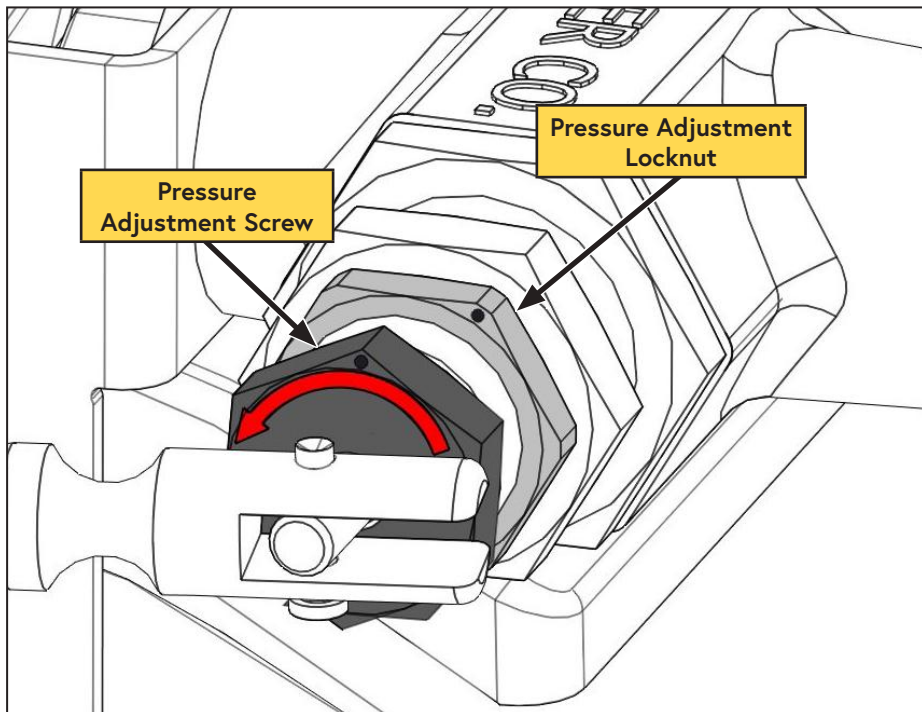

Figure 48 — Adjusting the Unloader Valve
- ☐ While securely holding the "Pressure Adjustment Screw", loosen the "Pressure Adjustment Locknut" (Figure 48).